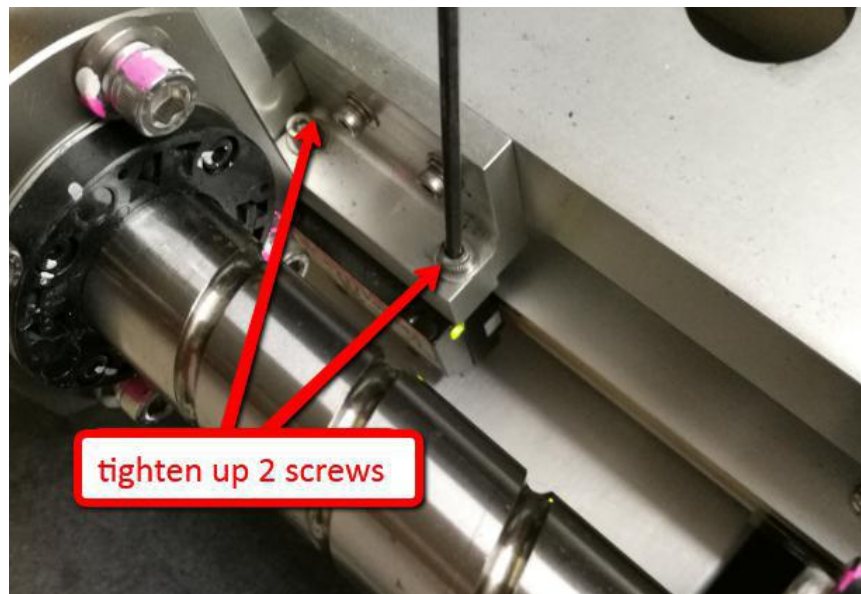

Figure 8 X-Axis encoder replacement
4. Assemble X-axis encoder & tighten 2 screws as shown in Figure 8.